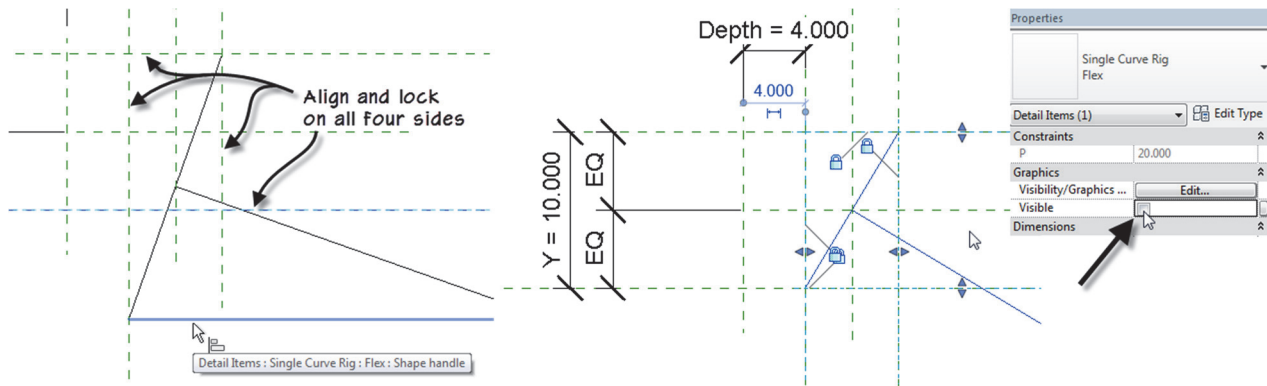

FIGURE 4.35
For each alignment, first click one of the reference planes in the host family, and then click the nested shape handle edge in the detail item family. Use TAB if necessary to get shape handle each time (see left and middle of Figure 4.35).
11. Select detail item and on the Properties palette, uncheck the Visible checkbox (see the right side of Figure 4.35).